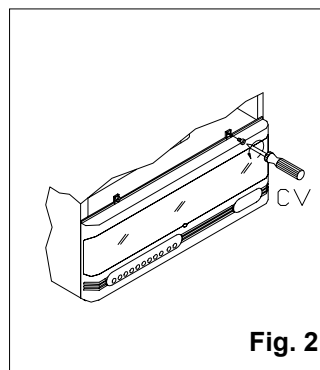

Fig. 2
- C. Undo the two side screws on the instrument panel using the CV screwdriver and pull down the cover (see fig.2).